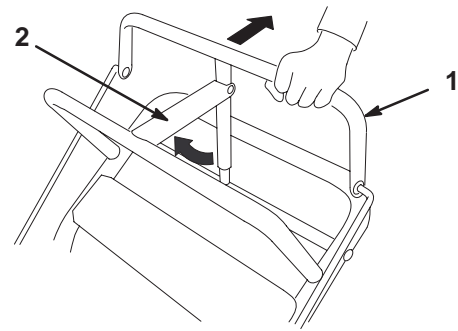

Figure 38
2. Set the parking brake (Fig. 38).